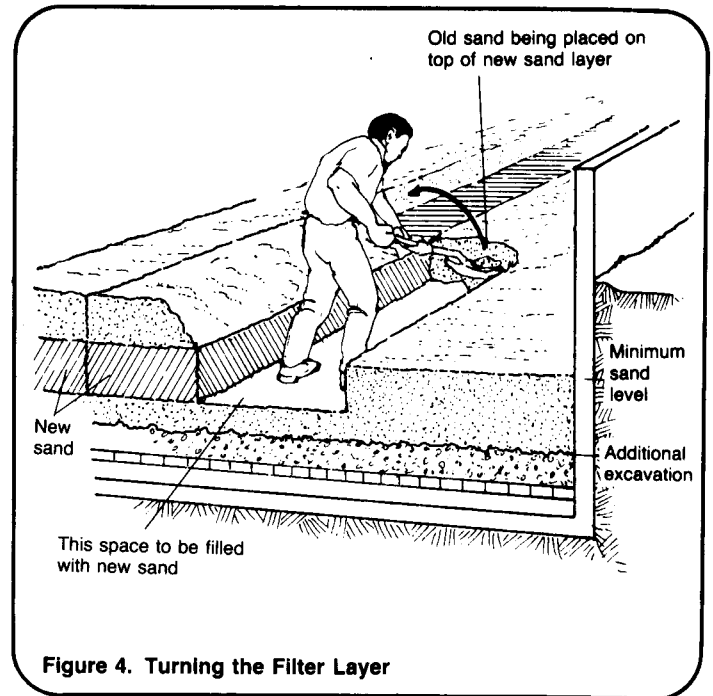

Figure 4. Turning the Filter Layer
- Dig a strip into the remaining sand layer as shown in Figure 4. Dig down a maximum of 0.3-0.5m being sure not to disturb the gravel layer.